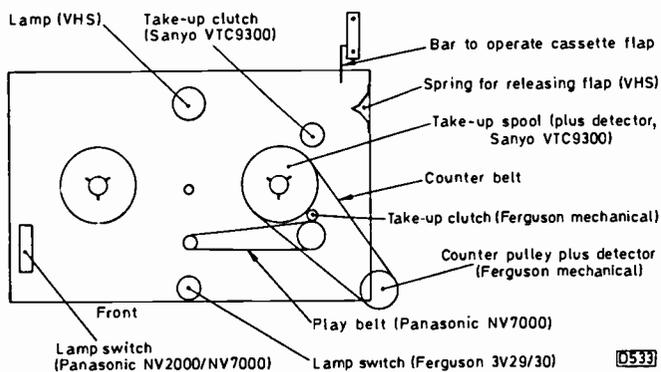

Fig. 2: Top view of the cassette compartment, showing various items that might require attention in different machines.
A block diagram of the Monomax i.c. is shown in Fig. 2. The differential i.f. input is fed to a four-stage i.f. amplifier whose first two stages are gain controlled. To bias the amplifier, balanced d.c. feedback is decoupled at pins 2 and 6 and applied to pins 3 and 5 via 2.2kΩ resistors. For optimum noise performance, the gain control applied to the first stage is delayed until the gain of the second stage
Fig. 2: Block diagram of the Motorola MC13002P Monomax i.c., with external components as used in the Thorn 1790 chassis. The height control acts on the feedback applied to pin 21.
lined up with the slot in the cassette and if necessary adjust with a pair of pliers (see Fig. 2). The bar may be bent if a cassette has been forced in wrongly or, in the case of VHS machines, if the spring mentioned above is weak.
- The cassette lamp not lighting (VHS, see Fig. 2).